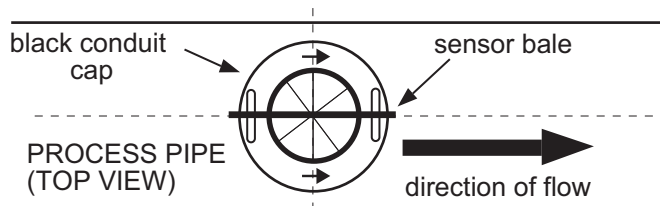

Figure 3
- When properly aligned, the sensor bale will be parallel with the pipe (Figure 3).